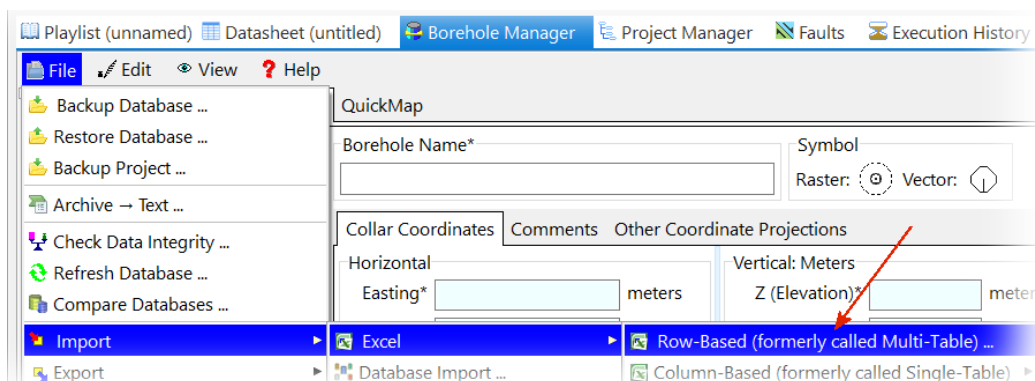

Figure 45
- Select the *Borehole Manager / File / Import / Excel / Row-Based* option (Figure 45).